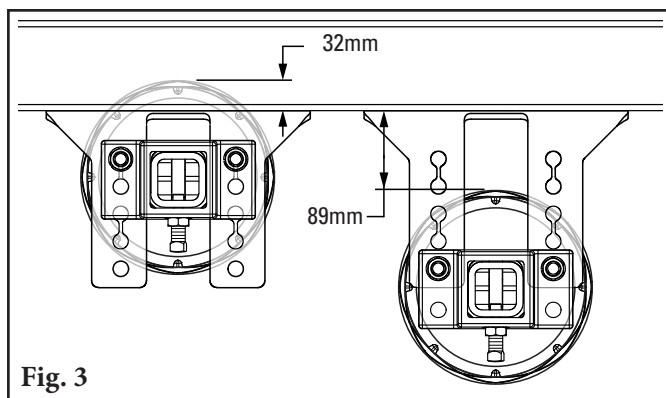

Fig. 3
- 3. Position mounting brackets.** May be mounted to existing idler hole patterns. Overall range of adjustment on brackets is 32mm above the top flange or 89mm below the top flange (Fig. 3).